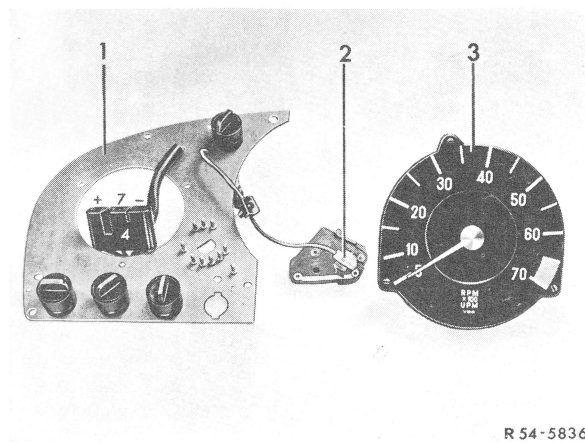

Fig. 3
Remove speedometer, loosen fastening screws (2) of lefthand contact plate (Fig. 1) and remove contact plate together with revolution counter (Fig. 3).